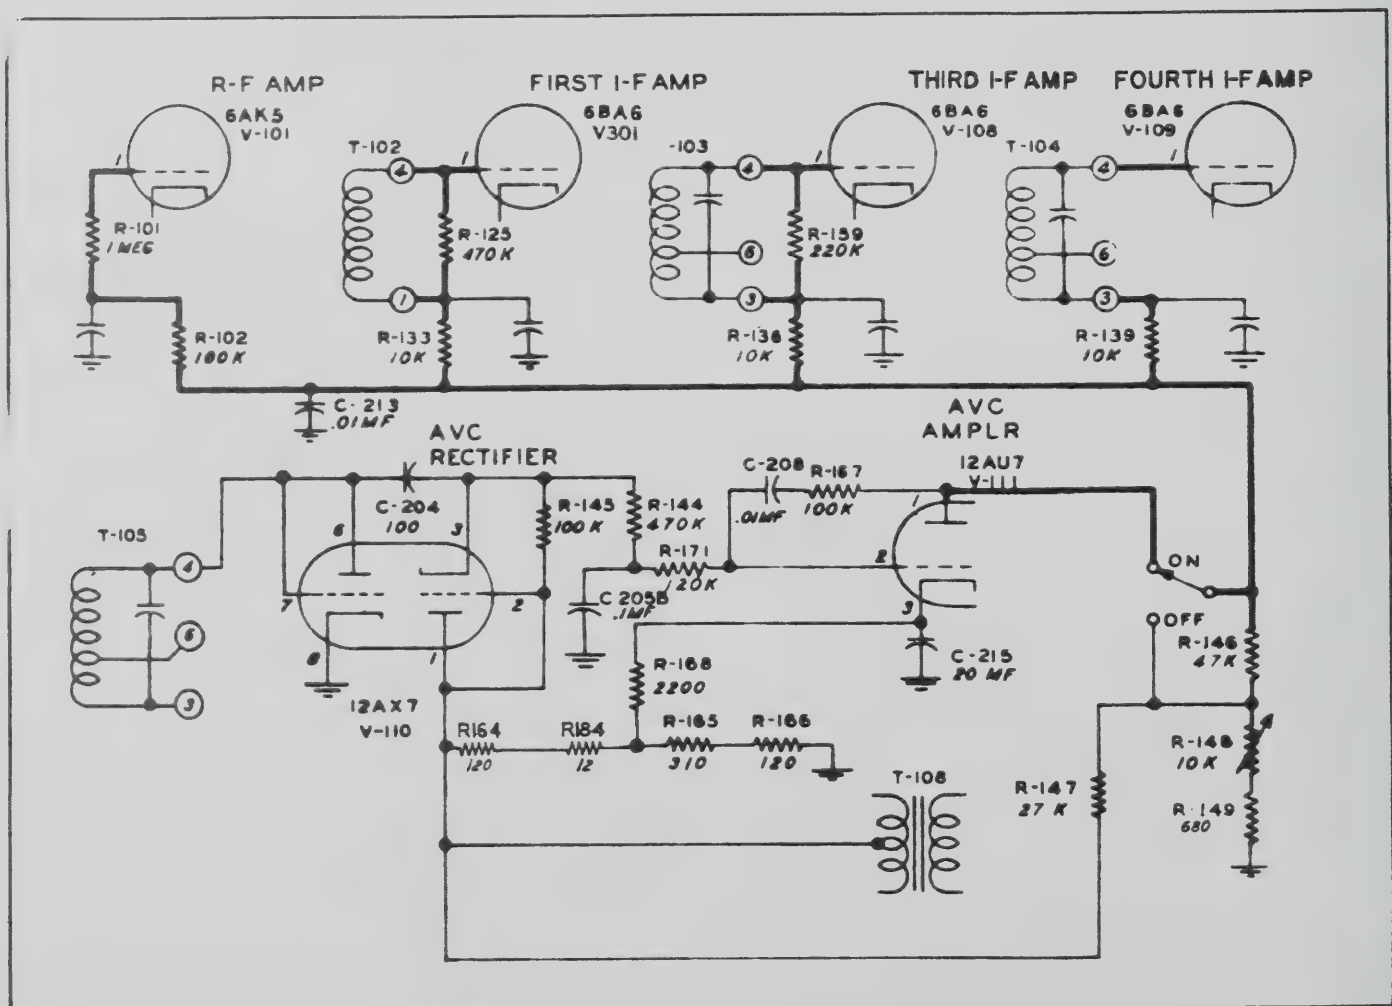

Figure 4-8. 51J-4 A. V. C. Circuit
**4.2.11. AUTOMATIC VOLUME CONTROL.** - The problem of blocking that is created by strong signals or heavy static is eliminated by use of an amplified AVC system and a low impedance AVC line. Refer to figure 4-8. The second triode section of V110 is used as an AVC rectifier to produce control voltage for the AVC amplifier which uses one half of dual triode V111. The AVC voltage that is applied to grids of the controlled tubes is produced when plate current flowing through one-half of AVC amplifier tube V111 causes a voltage drop across resistor R146. Plate voltage for the amplifier half of V111 is obtained from the voltage drop across resistors R165 and R166, which are in series with the center tap of the power transformer to ground. However, V111 will not draw plate current when there is no signal input to the receiver because of approximately 11 volts of bias that is placed upon its grid by the voltage drop through R164. This bias voltage for V111 is taken from the end of R145 through which the